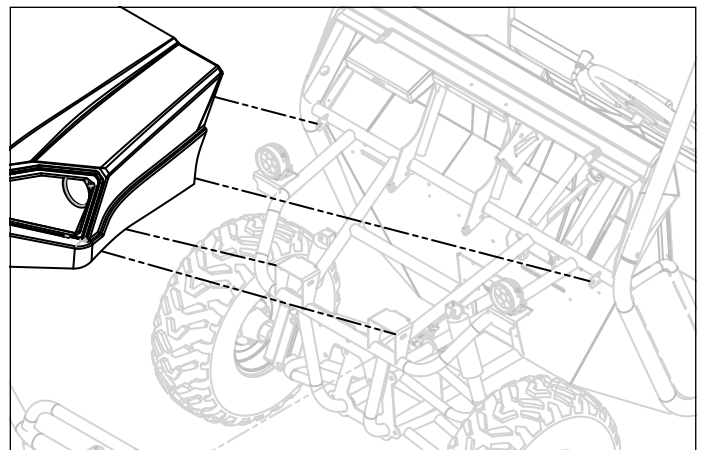

figure 4.14 (hood removal)
1. Using ½" wrenches, remove the (2) front hood fasteners and the (2) rear fasteners as shown in Fig 4.14.